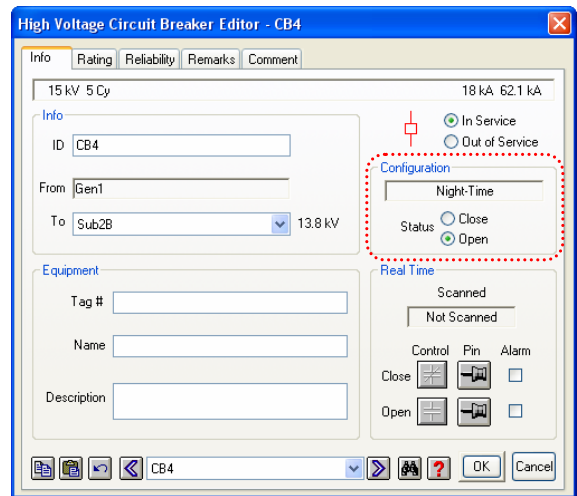

Fig. 5
- ix. Select "Open" radio button located in the "Configuration" frame, and click the "OK" button. See Fig. 5.